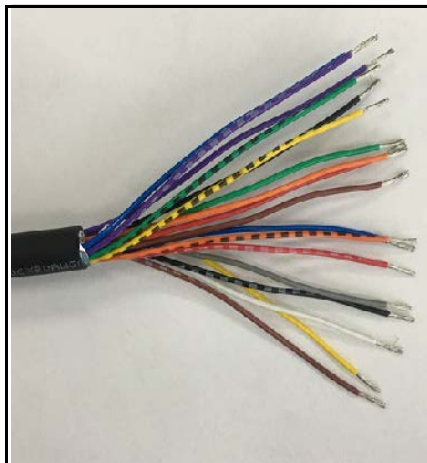

Figure 4-4 Stripped alarm wire
1. Strip the outer serial cable insulation back to expose the inner conductors, as shown in Figure 4-4.